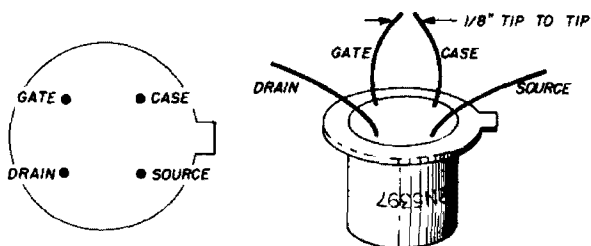

fig. 11. Method of pre-forming the leads to the 2N5397 fet before installing it into the preamplifier.
10. Carefully install the field-effect transistor with the tab pointing toward the input side of the filter. Solder the case lead to the input side of the shield and the gate to the output side of the shield. The transistor leads can be preformed as shown in fig. 11; the source lead will point toward C4 (stripline 3), and the drain lead will point toward C5 (stripline 4). Short pigtailed of no. 18 copper wire are soldered to the variable capacitor studs, and then to the free drain and source leads. When soldering the transistor leads use heat sinks and no more than a 40-watt soldering iron.